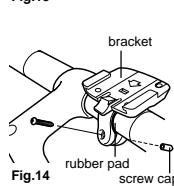

Fig.14
- Use either 1mm- or 2mm-thick pads if necessary, according to handlebar diameter. Attach the bracket close to the handlebar stem (fig. 14).